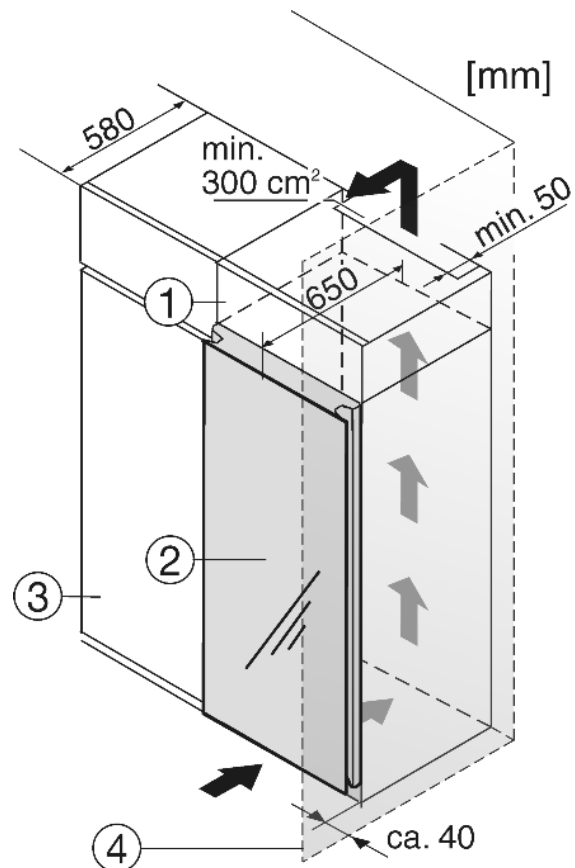

Fig. 18
- (1) Stack cabinet
- (2) Appliance
- (3) Kitchen cabinet
- (4) Wall
When inserting the appliance into a row of standard kitchen units (max. depth 580 mm), the appliance can be installed directly next to the kitchen unit Fig. 18 (3). The appliance door projects 70 mm relative to the front of the kitchen units. It can be opened and closed perfectly as a result.
If the appliance is installed with the hinges next to a wall Fig. 18 (4), the distance between appliance and wall has to be at least 40 mm.